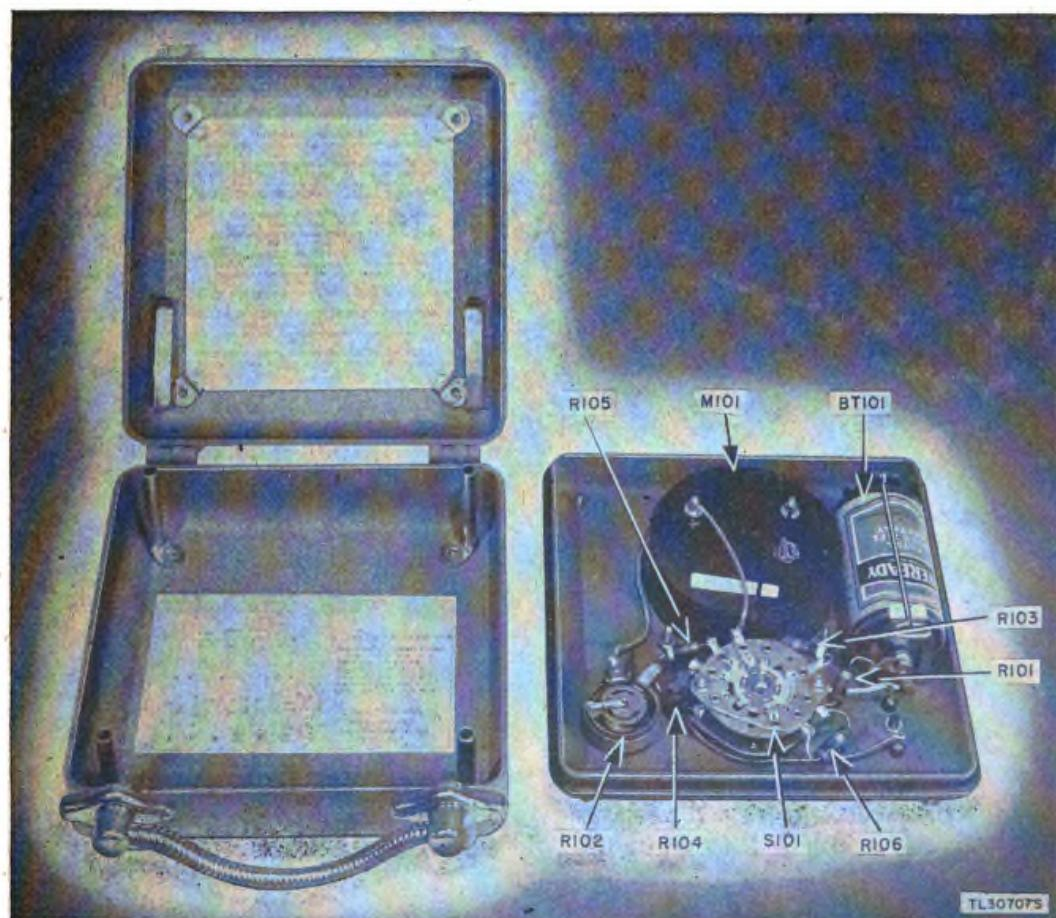

Figure 11. Rear view of panel showing location of parts.
(3) If the meter becomes defective and an exact replacement is not at hand, it may be replaced with a standard 3½-inch AWS (American War Standard) unit if the resistance of the meter is 100 ohms or less. When the resistance of the meter is less than 100 ohms, a suitable resistor must be connected in series with the meter to bring the total resistance to 100 ohms.
(4) Figure 11 is an interior view of the instrument showing the location of all the parts mounted on the rear of the panel.